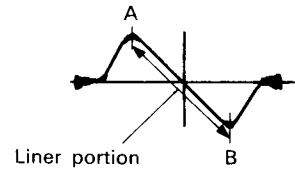

Fig. 20
- Note 2: Cause and S curve to appear on the screen by T201 as shown in Fig. 20, and adjust it until points A and B are positioned symmetrically, and the A-B line becomes liner.